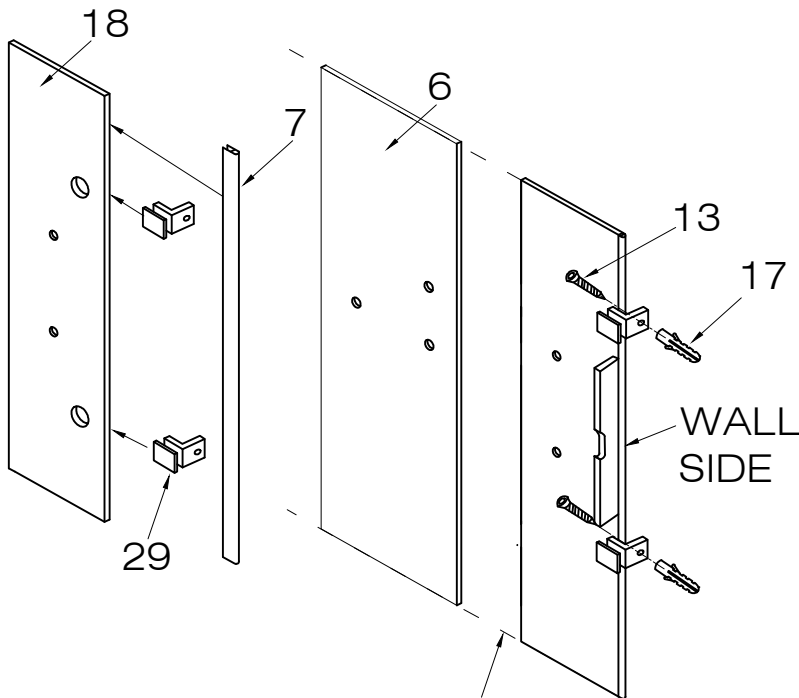

FIG.5
1. Install the side seal strip (#7) to the wall side of the side panel (#18) . Do not cut around the glass supports (#29) [SEE FIG.5].
6. Replace the side panel. Screw into the wall with 1 5/8 " hex screws (#13) [SEE FIG. 5].